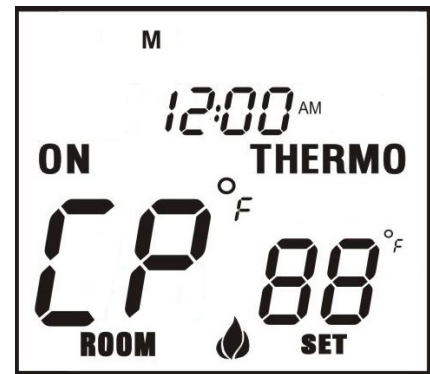

Fig. 25. CP Childproof lock-out)
- When the Transmitter is in “LOCK-OUT” mode, automatic functions (like thermostat) will turn ON without interruption; only manual functions are prevented. (See Fig. 25)